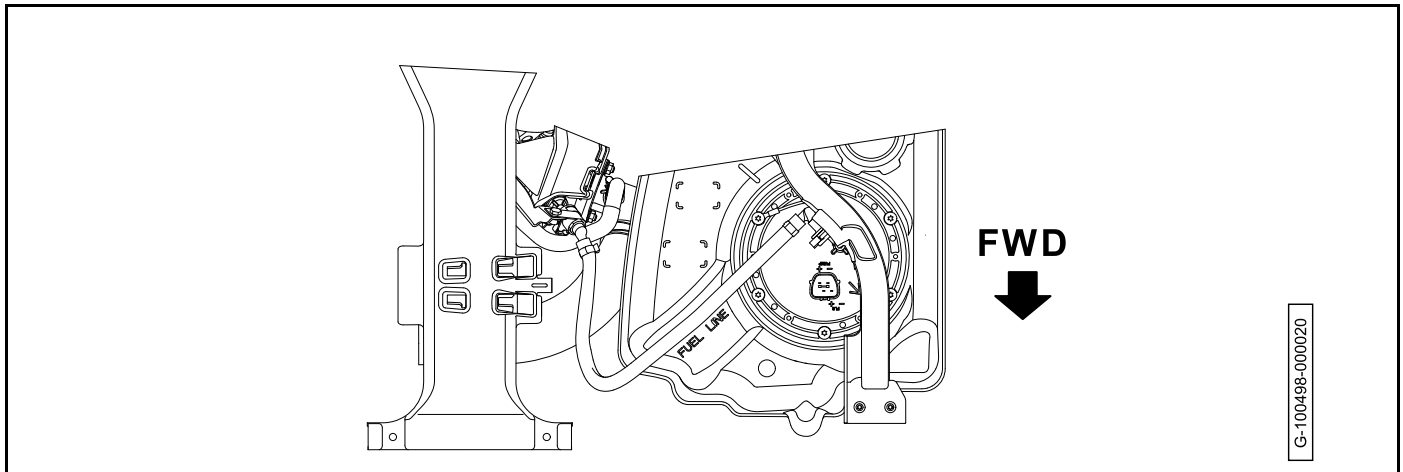

Figure 21-18
10. Make sure that the fuel line is routed correctly (**Figure 21-18**).